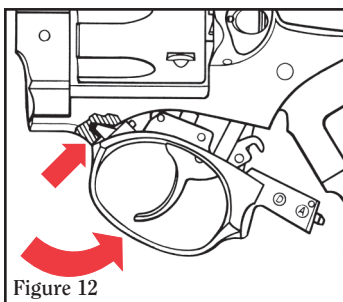

Figure 12
6. Use a screwdriver of appropriate size and insert it through the hole in the frame to depress the trigger guard lock plunger located inside the frame at the rear of the trigger guard. Simultaneously pull down and remove the trigger guard assembly (see Figures 12 & 13). It may be necessary to slightly depress the trigger while removing the trigger guard assembly.
2. Hook the front of the trigger guard into the recess in the frame (see Figure 12, p. 21).